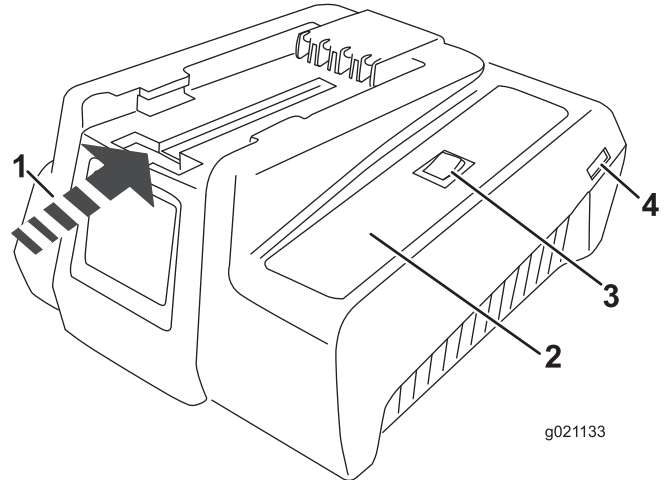
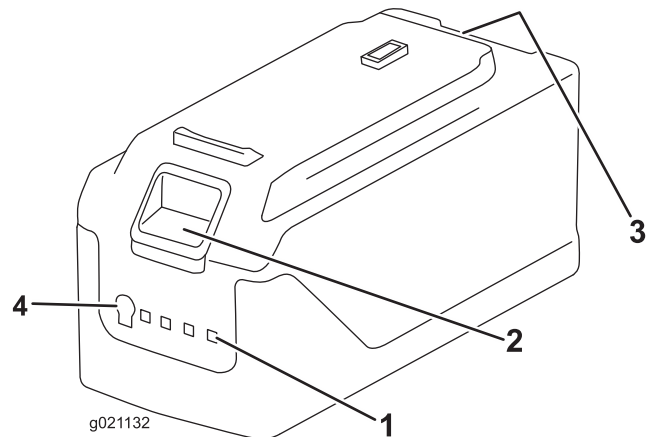

Figure 10
Figure 11
- If the power cord is not plugged in to the charger, plug it in to the charger (Figure 10), then plug the power cord into a power socket.
- Turn the battery upside down and line up the battery terminal with the slot in the charger (Figure 10 and Figure 11).